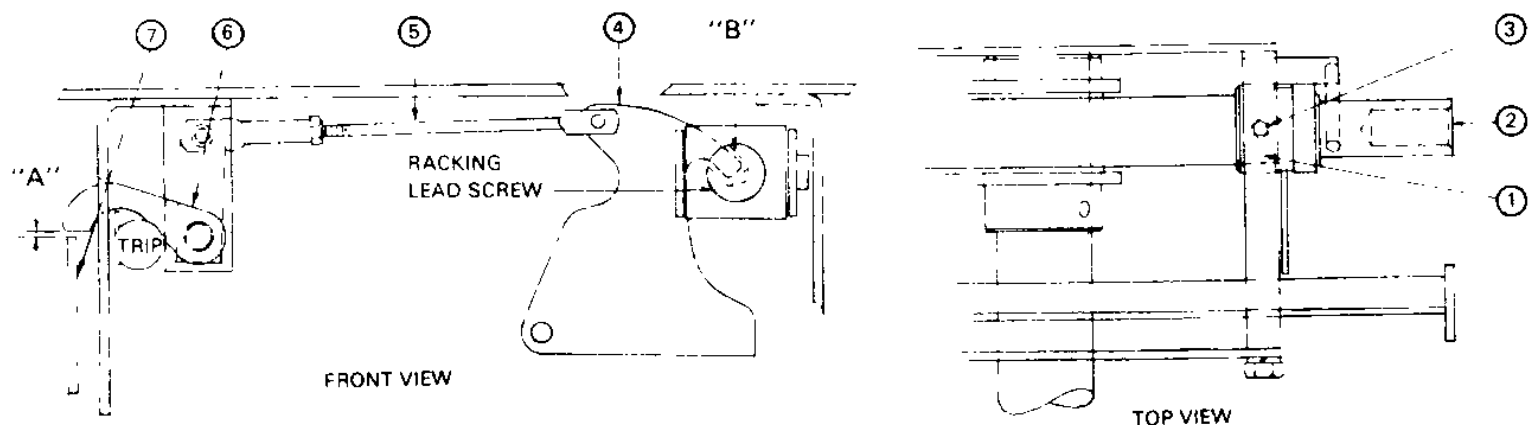

Fig. 9 — Racking Mechanism
5.11 RACKING MECHANISM (See Figure 9)